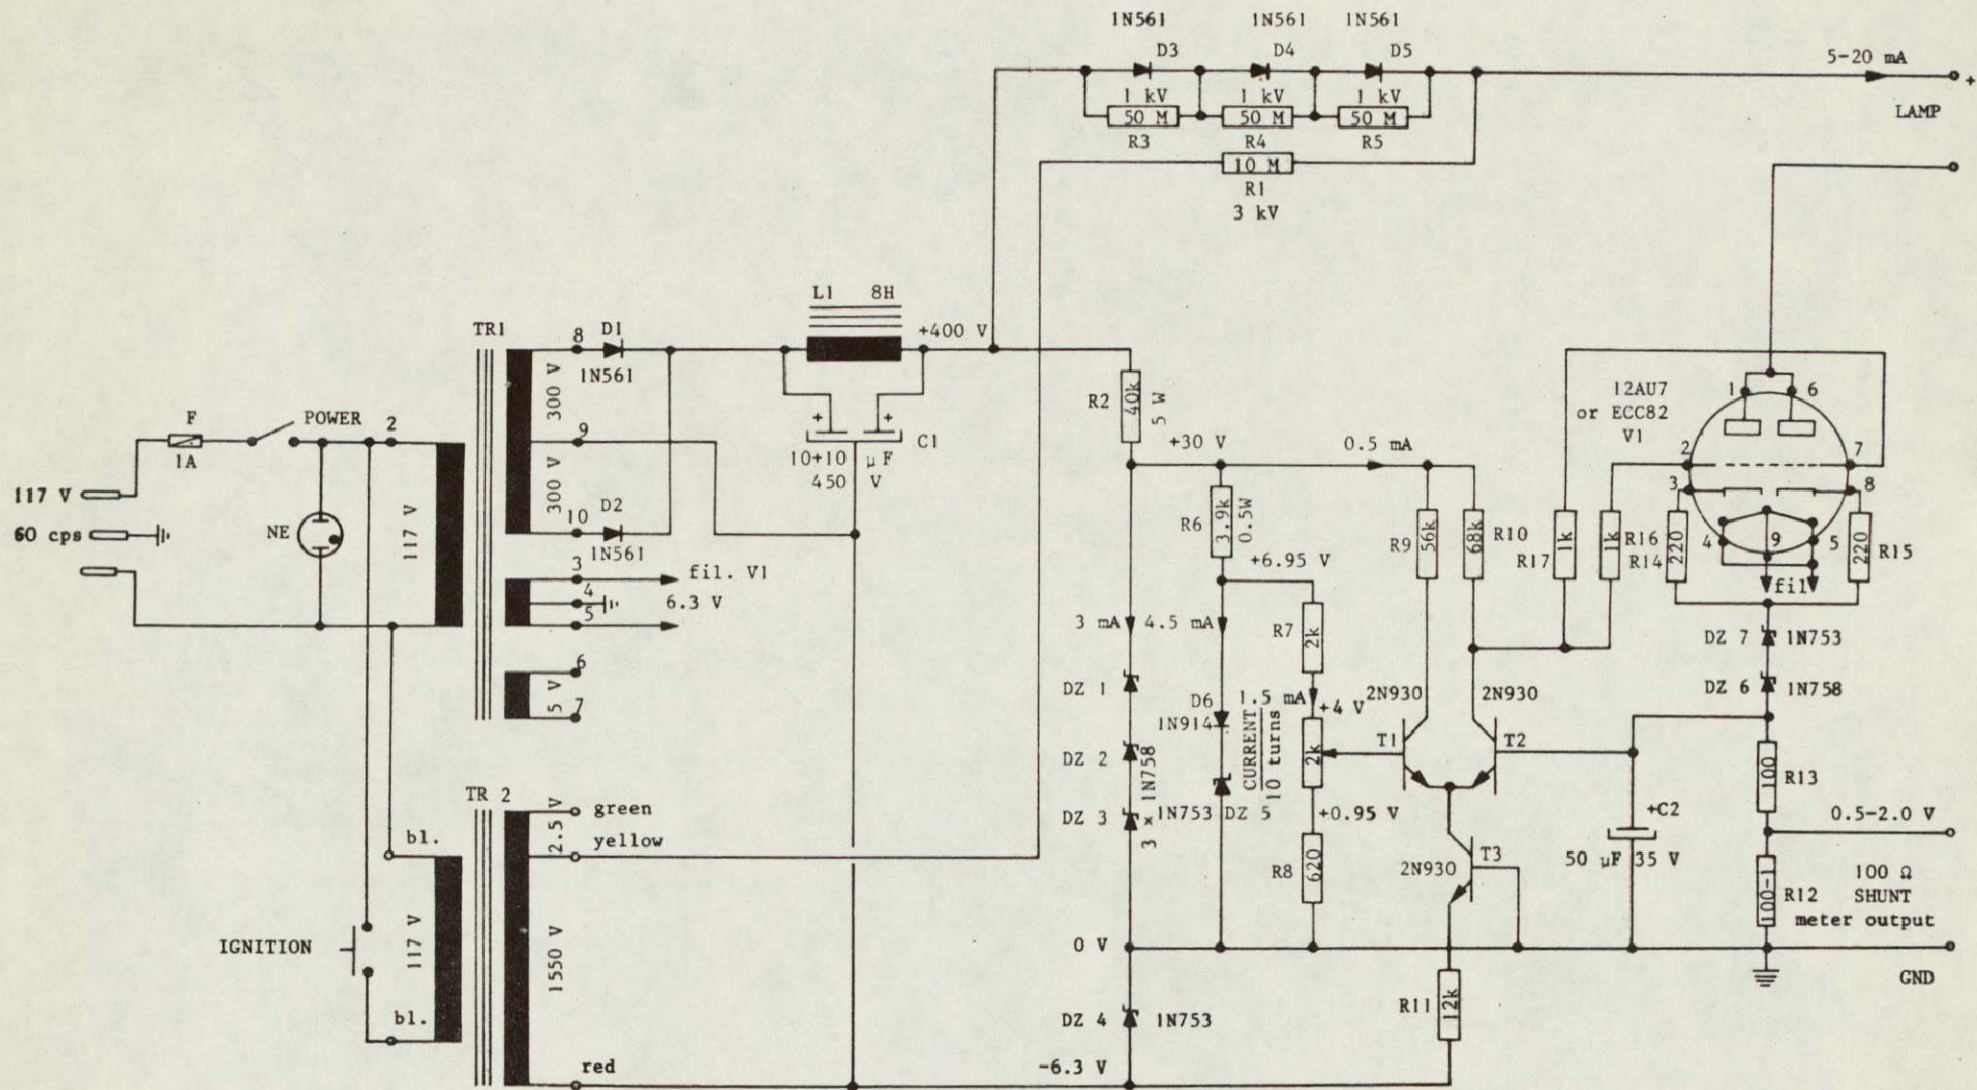

Figure 3.- DC Power Supply for Pen-Ray Lamps (Current Regulated).
- Figure 3. Schematic diagram.